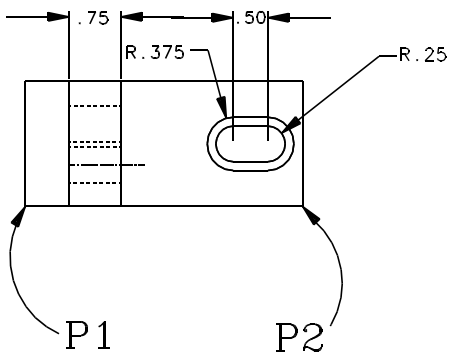

Figure 29
98. Click on points P1 and P2 for the 4.00 dimension. (See Figure 29.)